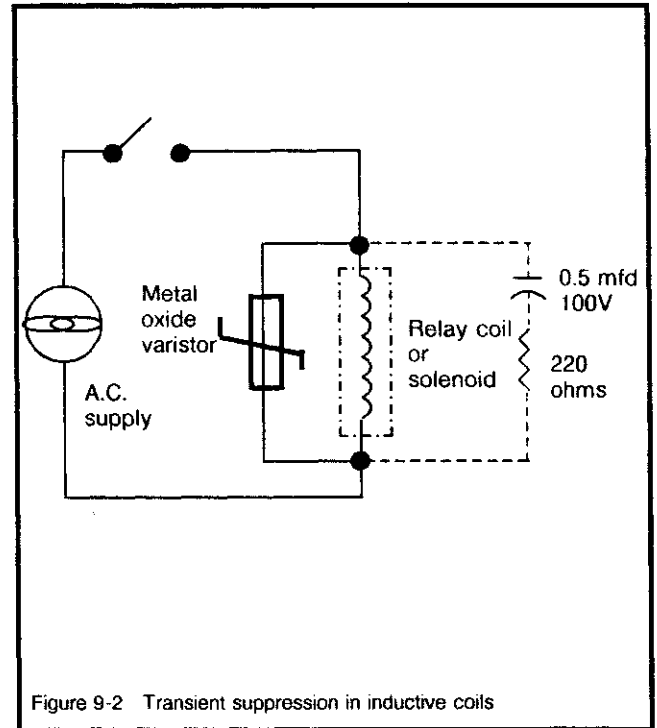

Figure 9-2 Transient suppression in inductive coils
- Inductive Coils: Metal Oxide Varistors (MOVs) are recommended for transient suppression in inductive coils. An MOV is connected in parallel with the coil and is as close as physically possible to the coil (Figure 9-2). MOV devices (Table 9-2) are recommended for general purpose applications.